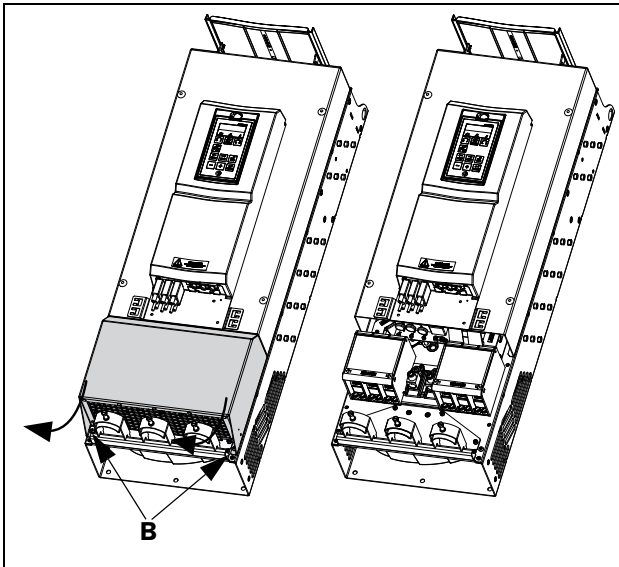

Fig. 27 Loosen the two screws and remove the lower cover (principle drawing)
- Loosen the two screws B (see Fig. 27).